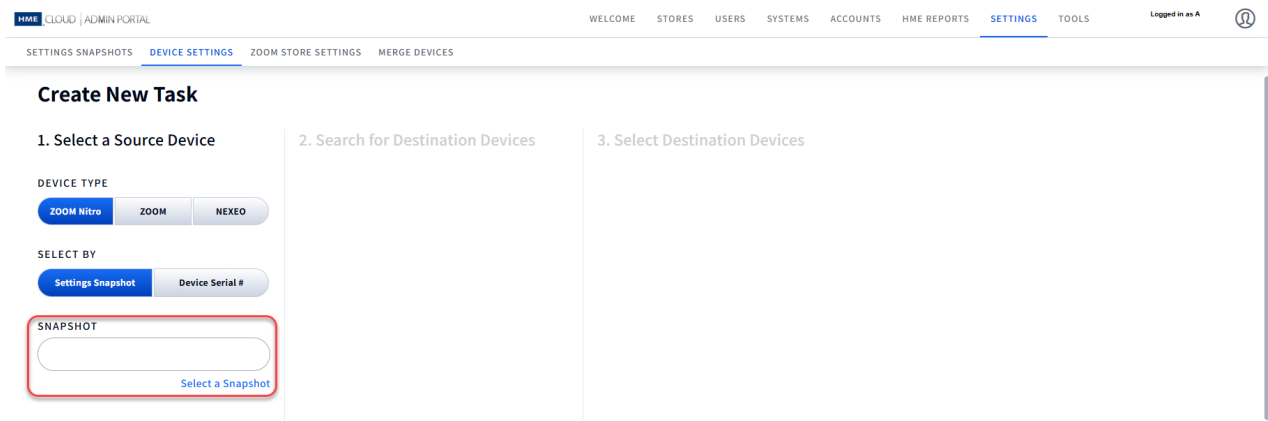

Fig. 13.9
5. If you know the snapshot filename, you can enter it directly into the SNAPSHOT field (Fig. 13.9). Or, beneath the field, you can tap/click the **Select a Snapshot** option to open a list of available snapshots (Fig. 13.9).